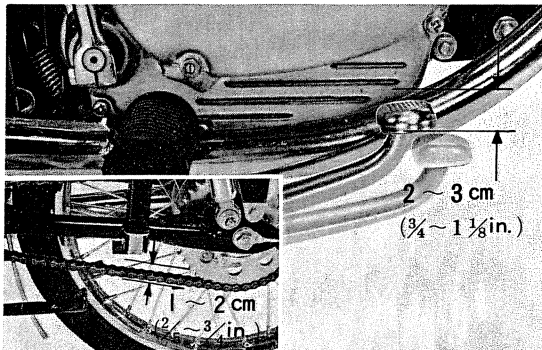

Fig. 119 Chain slack and brake pedal play
- 7) Install and connect drive chain, and after completing the adjustment, tighten the rear axle nut. Chain should be adjusted so that there is 1-2 cm (2/5-3/4 in) slack in the chain (Fig. 119).
The play in the brake pedal should be 2-3 cm (1/4-1-1/8 in.). (Fig. 119).